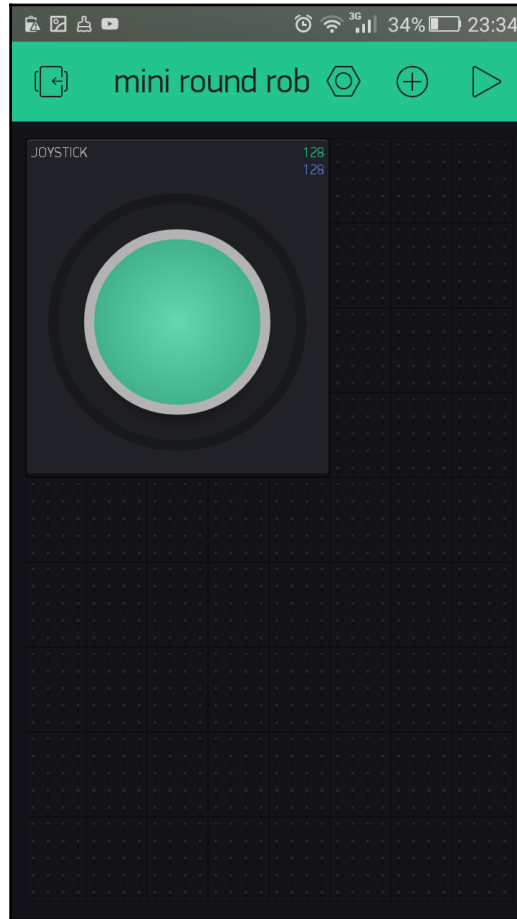

Figure 2.25: Joystick widget in the design view
7. The joystick widget has been added to the design view (Figure 2.25). Note that the x and y coordinates for the center are 128, 128: